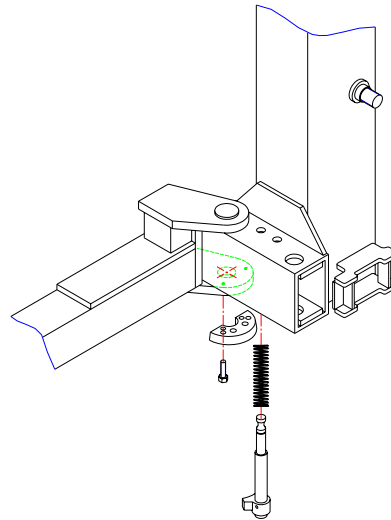

Fig. 16
- B. Position the gears with word TOP against the bottom of the arms in the orientation shown in figure 16. Attach the gears to the arms **with (2) 3/8-16NC X 1-1/2 long HHCS. Do not tighten at this time.**